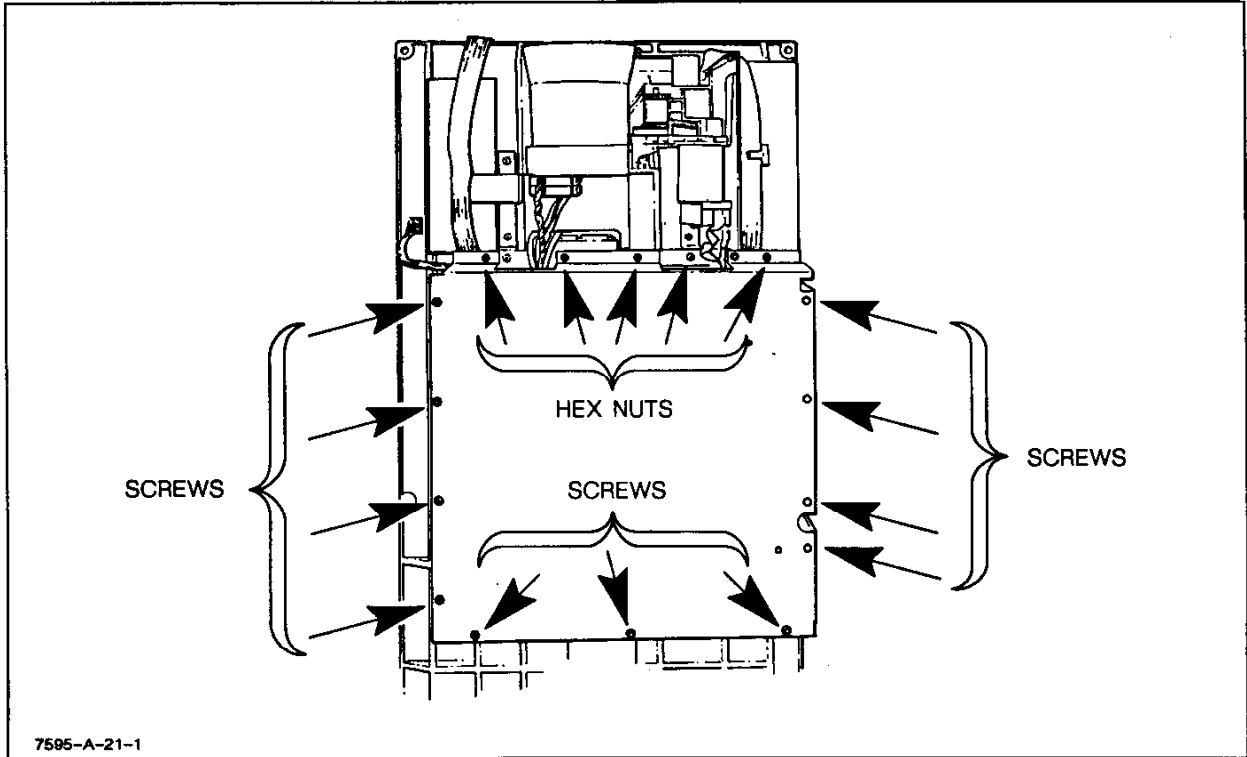

Figure 6-5. PCA Cover Removal
- d. Remove the twelve hex nuts (9/32) that secure the PCA cover and remove the cover. See Figure 6-5.